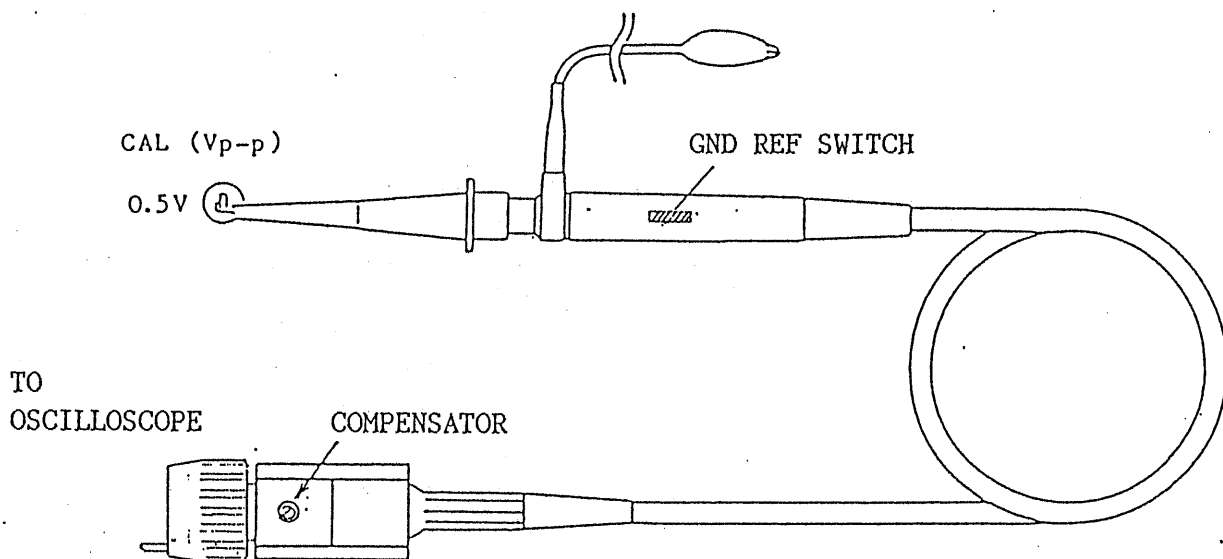
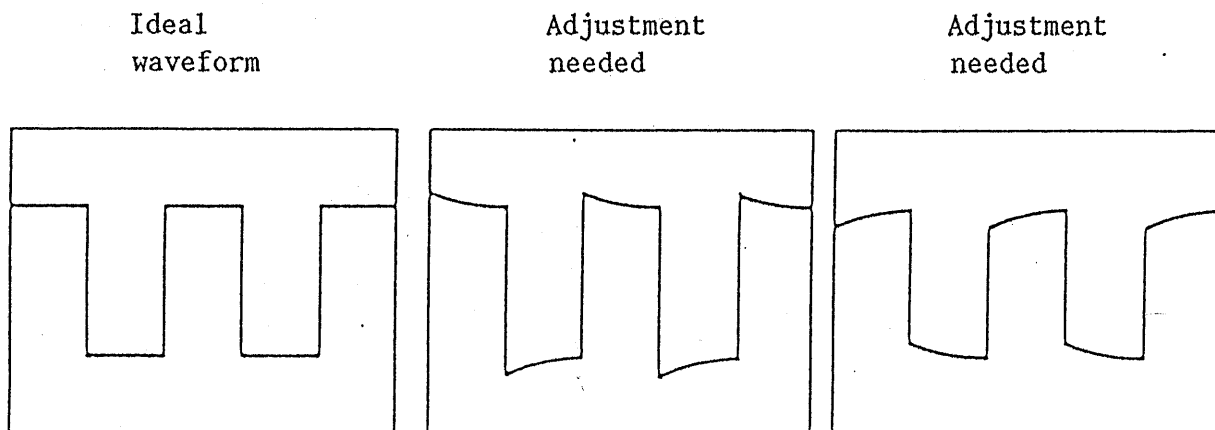

Figure 4.5
Figure 4-6
As you press the GND REF switch (see Figure 4-5), the probe output is shorted to the GND line allowing you to identify the ground reference level without requiring to turn the CPLG switch of the oscilloscope to the GND position.
Connect one of the probes to the CH1 INPUT terminal ⑧ and set the VOLTS/DIV switch ⑤ at 0.1 V. Connect the probe tip to the CAL terminal. Observing the waveform displayed on the CRT, adjust the compensator (see Figure 4-5) with a screwdriver so that an ideal waveform is obtained (see Figure 4-6).